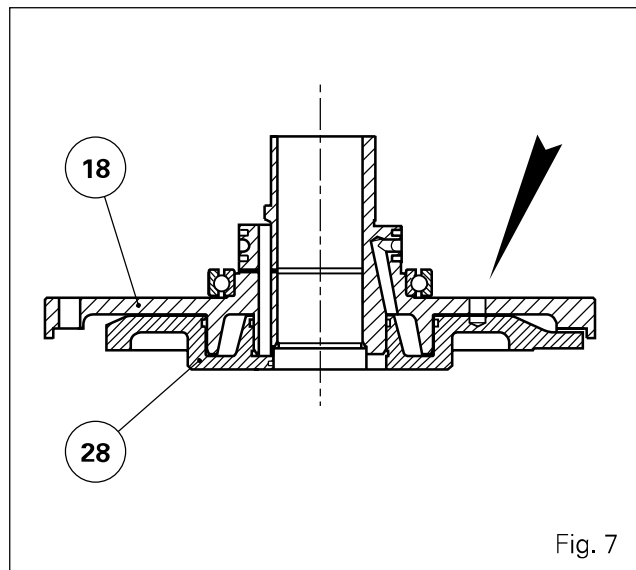
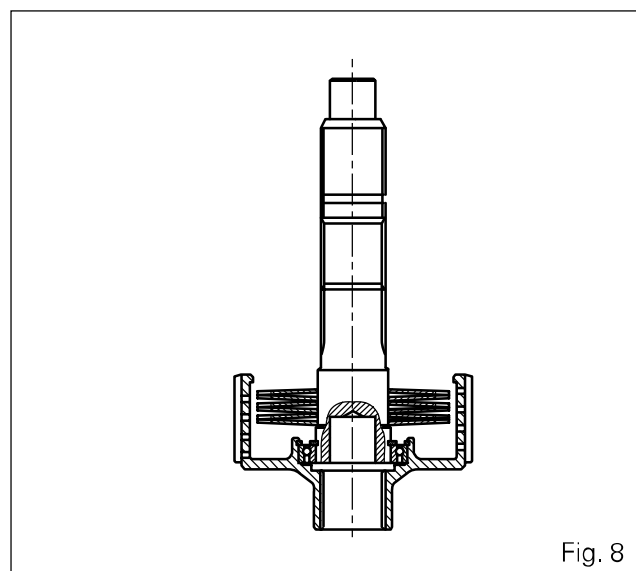

Fig. 7
Fig. 8
36. Fitting piston (28).
Remark: The angular position of the piston depends on the position of unit (18) lubricating ports. Align the indexing holes drilled in the unit and the piston (Fig. 7). To align, use a pin of a suitable diameter. Complete the installation of the piston by gradually and alternately striking around its top rim with a plastic mallet. Check that there are no fragments of the seal after assembly.
37. Using a suitable tool, force fit bearing (22) on shaft (19), the seal side facing towards the rear clutch. Fit circlip (21).
38. Put the assembly (shaft, bearing, circlip) in the hub (27). Fit the snap ring (23).
39. Refit the Belleville washers as shown in Fig. 8.